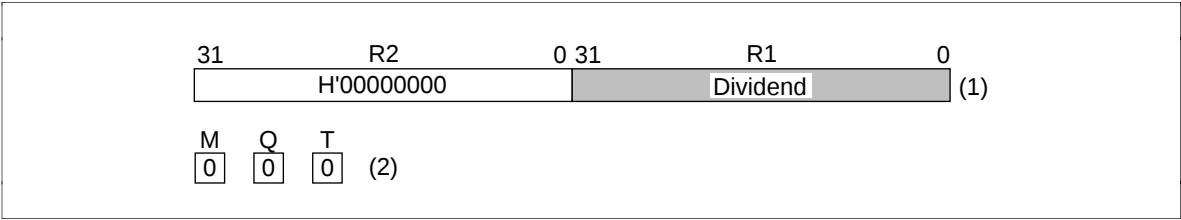

Figure 3.42 Initial Setting (DIVU32Q)
- Takes R2’s upper 32 bits and zero-extends the dividend to 64 bits (figure 3.42 (1)).
- Sets the M, Q, and T bits used in one-step division to unsigned division values (figure 3.42 (2)).